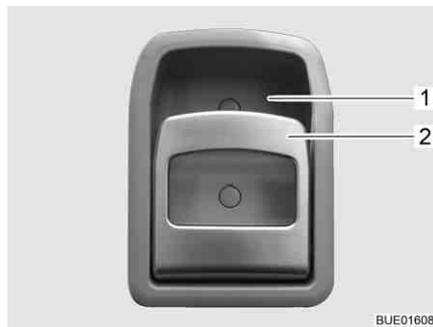

Fig. 56 Door lock of conversion door, inside
- Pull on the handle (Fig. 56,2). The door lock is unlatched or opened.
- Press the upper part of the handle (Fig. 56,2) in the direction of the recessed handle (Fig. 56,1). The door lock is locked.